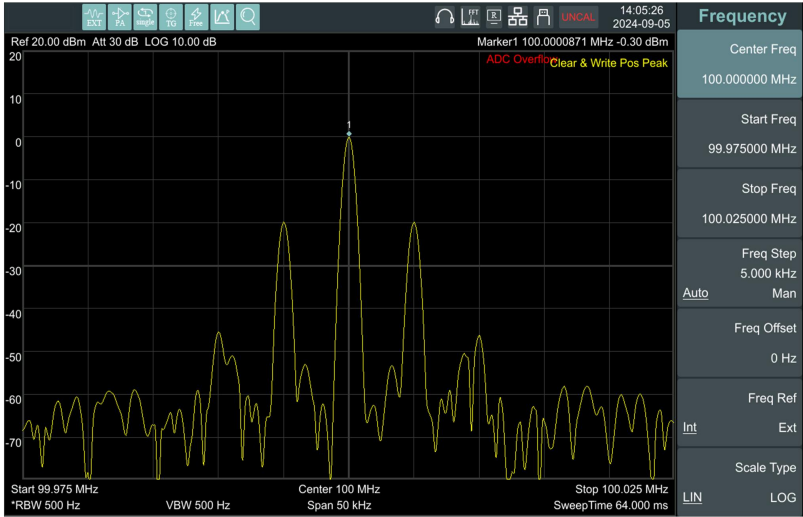

Figure 4-8 Full Span
- 1) Press [Preset] to restore the analyzer to its factory-defined state. The Spectrum analyzer will display the spectrum from 9kHz to the maximum span width. The signal generated will display as a vertical line at 100MHz. Refer to Figure 4-8.